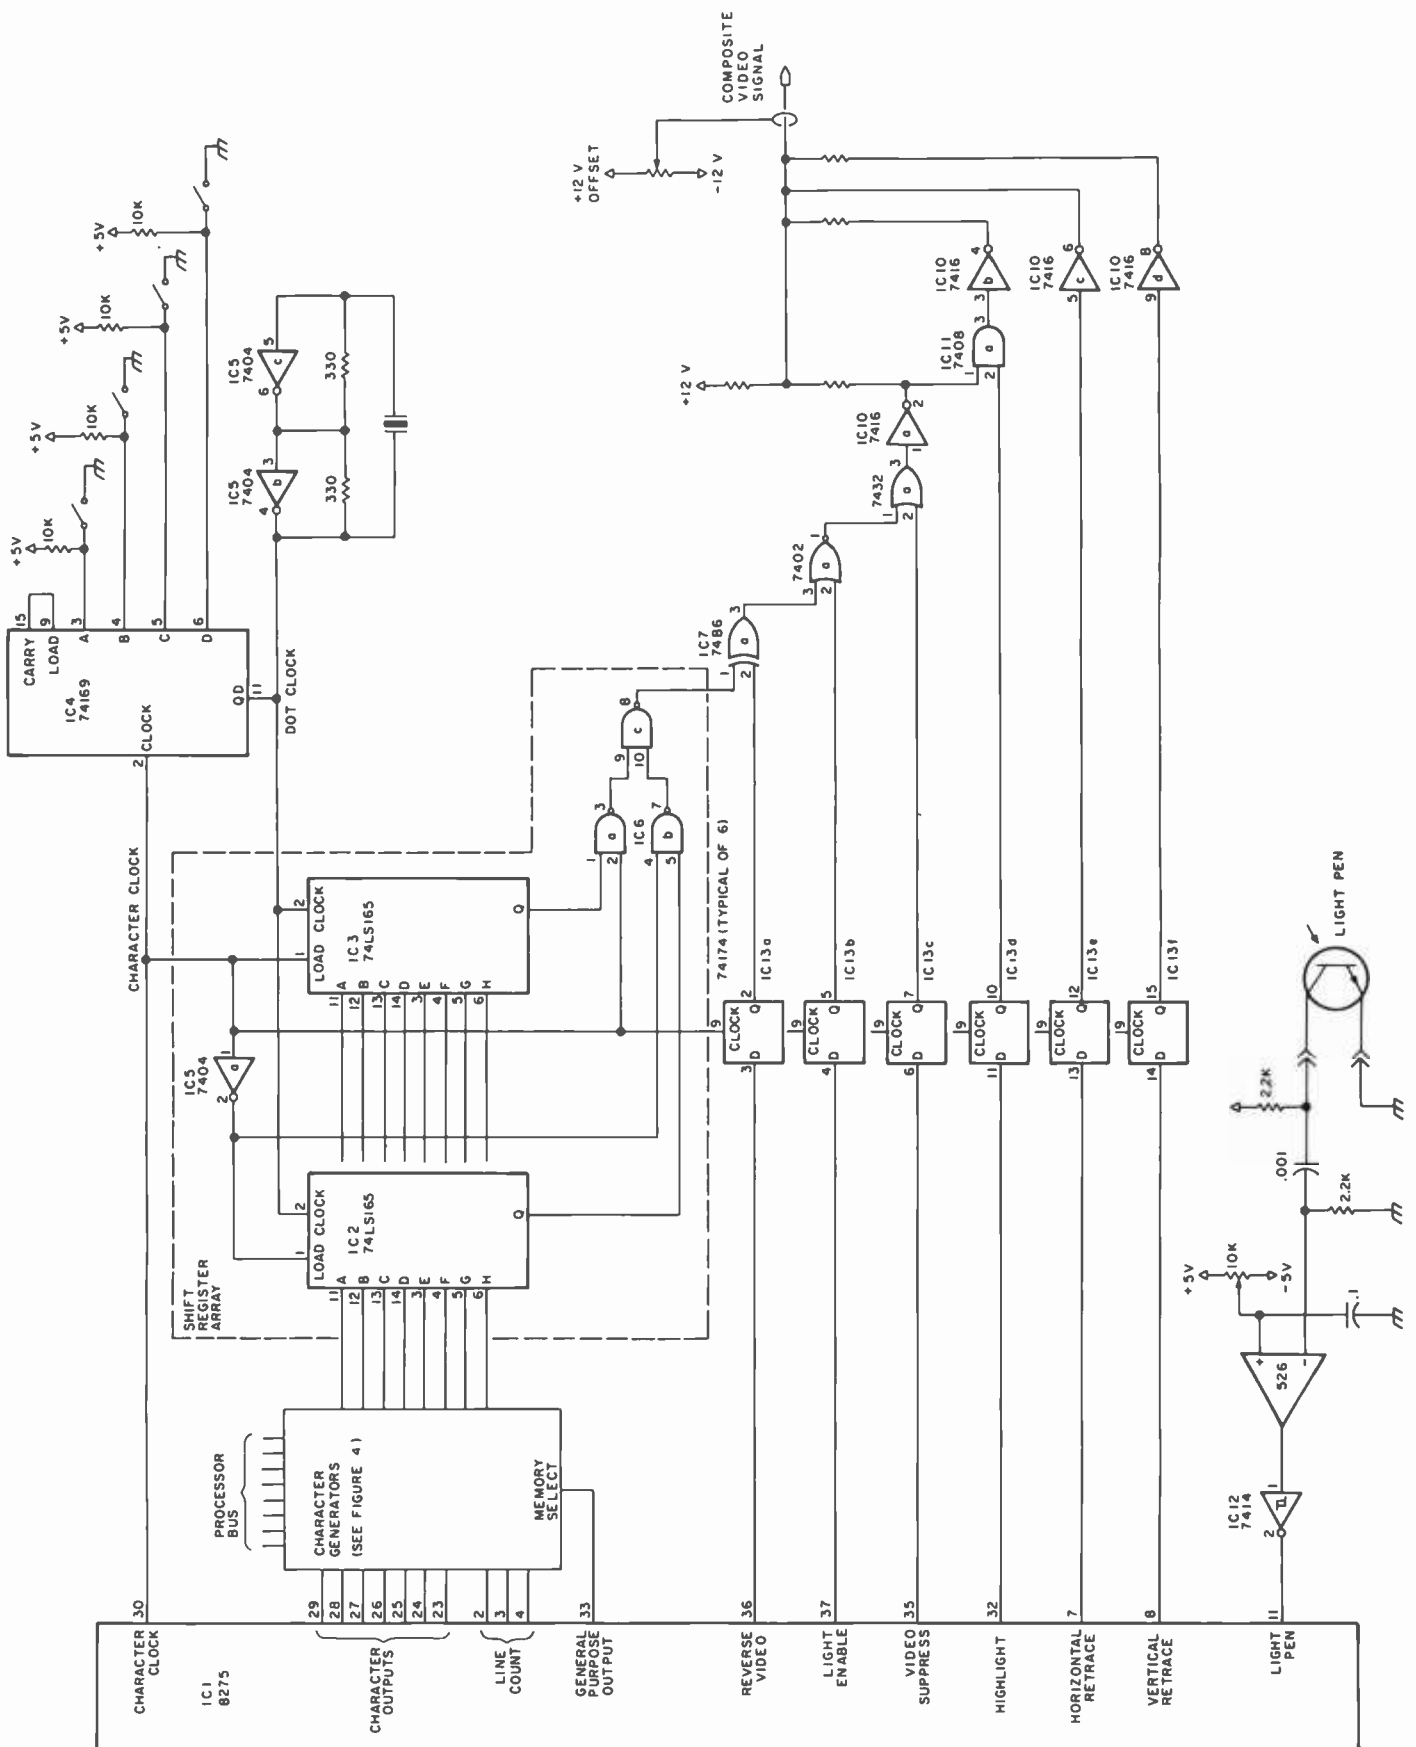

Figure 3: A possible configuration of the 8275 to produce a composite video signal. The number of dots which make up a character is determined by the dot clock.
Table 1: Power pin assignments for the circuits in figures 3 thru 6.
- *Light Pen* input. A positive edge on this input latches the present row and column positions. One possible light pen circuit is shown in figure 3. The light pen is a phototransistor. It is connected to a differentiator (the resistor/capacitor network) and a comparator. The comparator detects a positive spike caused by the electron beam intensifying the phosphor on the screen. A Schmitt gate gives the video controller a clean, sharp edge. The controller now has the row and
Since this article is primarily concerned with the 8275's operation, discussion of the circuit will be limited mostly to the composite video output circuitry. The purpose of this section is to further acquaint the reader with the 8275. Figure 3 shows one configuration for producing a composite video signal. A dot clock is divided down to provide the character clock. If the dot clock is divided by  $n$ , there are exactly  $n$  dots per character horizontally. The character clock is connected to the 8275, but it must also connect to two other points. It controls the loading of the shift register, and it clocks several bits through flip flops. The shift register turns the parallel dot data from the character generator to serial form for the video display. The six bits (*Reverse Video*, *Light Enable*, *Video Suppress*, *Highlight*, *Horizontal Retrace* and *Vertical Retrace*) are delayed by one clock by passing them through the flip flops to synchronize them with the slow speed of the character generator. They are then gated with the character data through some logic gates to produce the composite video output signal.
Figure 3 gives the reader an idea of the complexity of the output circuit. Each box represents one integrated circuit (if a simple character generator is assumed), except for the six flip flops, which are all contained